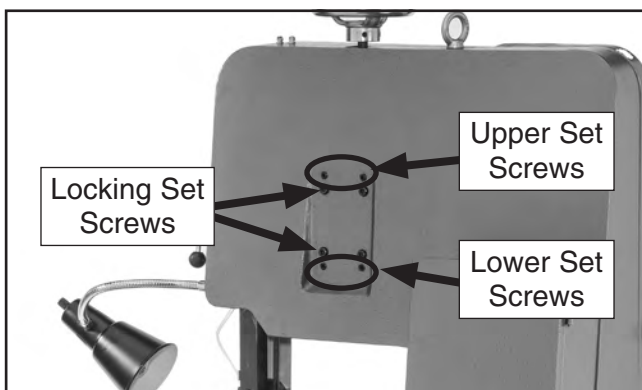

Figure 25. Location of set screws for adjusting blade tracking.
Adjust the blade tracking by adjusting the upper and lower pairs of set screws shown in **Figure 25**.
5. Loosen the four locking set screws (see **Figure 25**).
7. Adjust the upper and lower pairs of set screws (see **Figure 25**) an equal amount—to tilt the upper wheel in or out—until the blade rides next to the wheel flange without pressure and without wandering across the wheel. Adjust each pair of screws in small increments, then repeat **Step 6**.